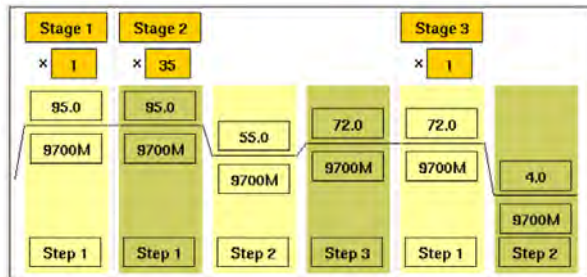

Figure 13 Converted run method, showing “9700M” as the ramp rate
**Note:** You cannot edit the ramp rates in the method created by the Convert Method wizard. This is indicated by “9600” or “9700M” in the Time field, when you choose to view ramp rates rather than time (see Figure 13).